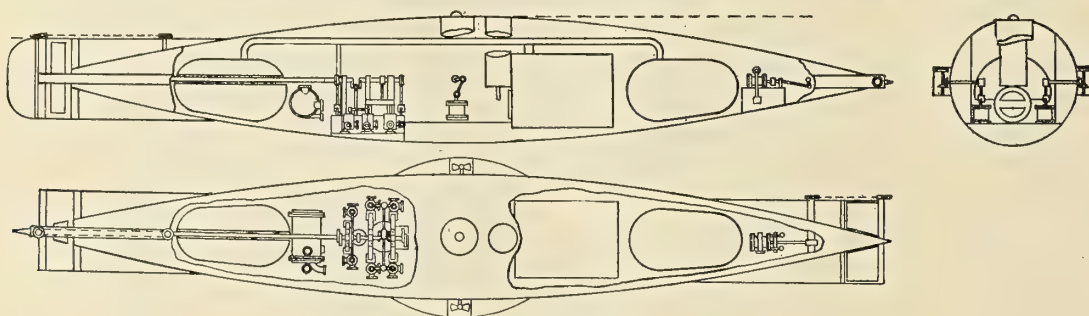

FIGS. 27, 28 AND 29.—CAMPBELL'S NAUTILUS, 1886.
*Campbell's Nautilus, 1886.*—On the 27th of November, 1886, the submarine boat shown in Figs. 27 to 29 was tried in the West India Docks, in London. This boat, designed by Andrew Campbell, and built by Wolesly & Lyon, had a length of 57 ft. and a maximum dia. of 7 1-2 ft. and a displacement of 52 tons when fully submerged. The twin propellers were driven by two motors of 45 horse power, which were designed by Graydon Poor and built by Lewis Olrick & Co. The electric current was stored in 180 Elwell-Parker storage batteries, and these were systematically arranged on both sides amidships. The vessel was built of plate with angle iron frames. The interesting part of this boat lies in the system of increasing or decreasing her displacement as a means of diving or coming to the surface. Four horizontal cylinders of 20 in. dia. were fitted on either side, and these could be pushed out about 20 in. so as to increase the displacement by about one half a ton. This telescopic action was connected to the power plant, and the speed by which the displacement could be altered was sup-